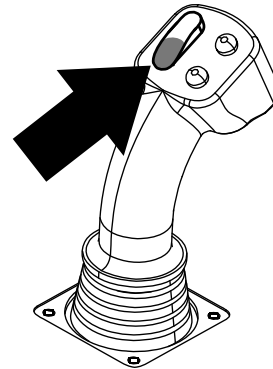
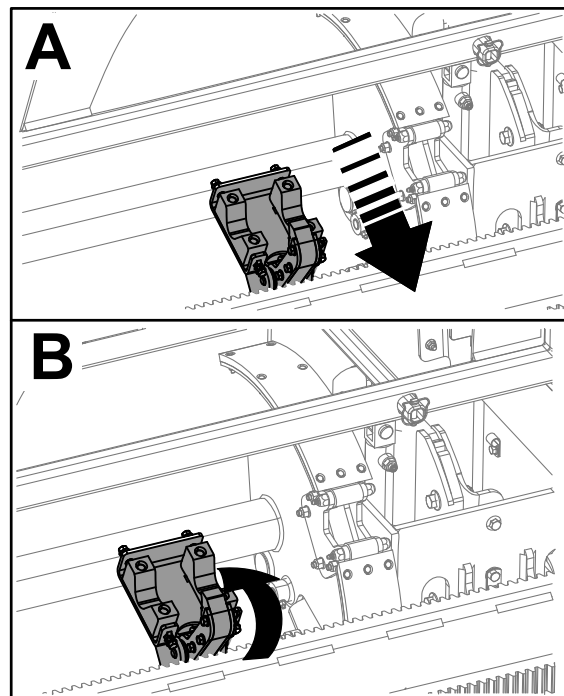

Figure 33
Figure 34
7. Hold the lower section of the rocker switch (Figure 33) until the loader arms rotate toward the pipe box. As they rotate past the cam assembly the pipe grippers close on the pipe, bringing it to the drill string (Figure 34).